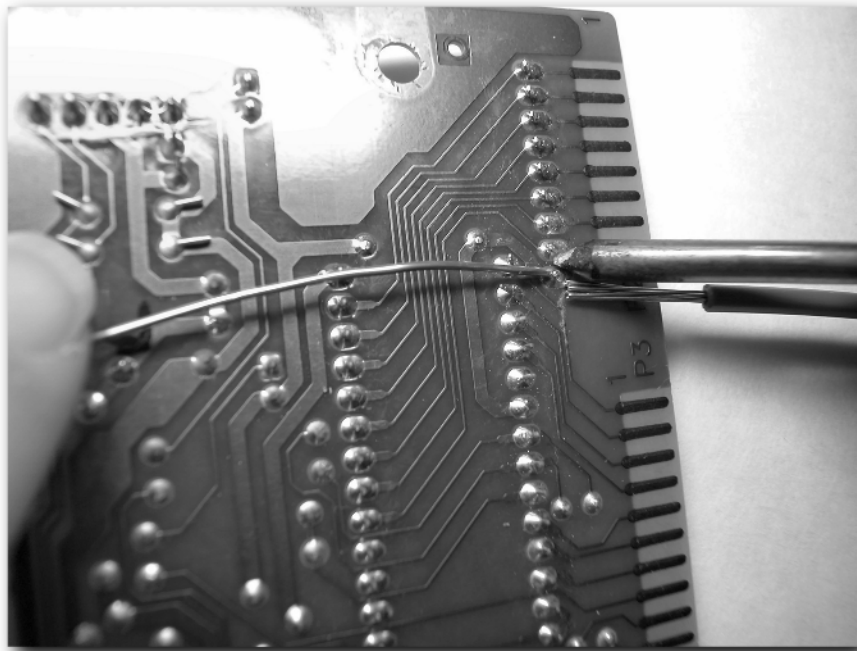

FIGURE 7-7: Properly applying heat to the components to be soldered.
4. Heat the components, not the solder. Solder flows toward the heat. To properly solder, apply the iron to both components to be soldered at the same time. Touch the solder to the components, not the iron. The heat will transfer from the components to the solder, causing the solder to flow onto the components. Resist the urge to directly heat the solder! See Figure 7-7.